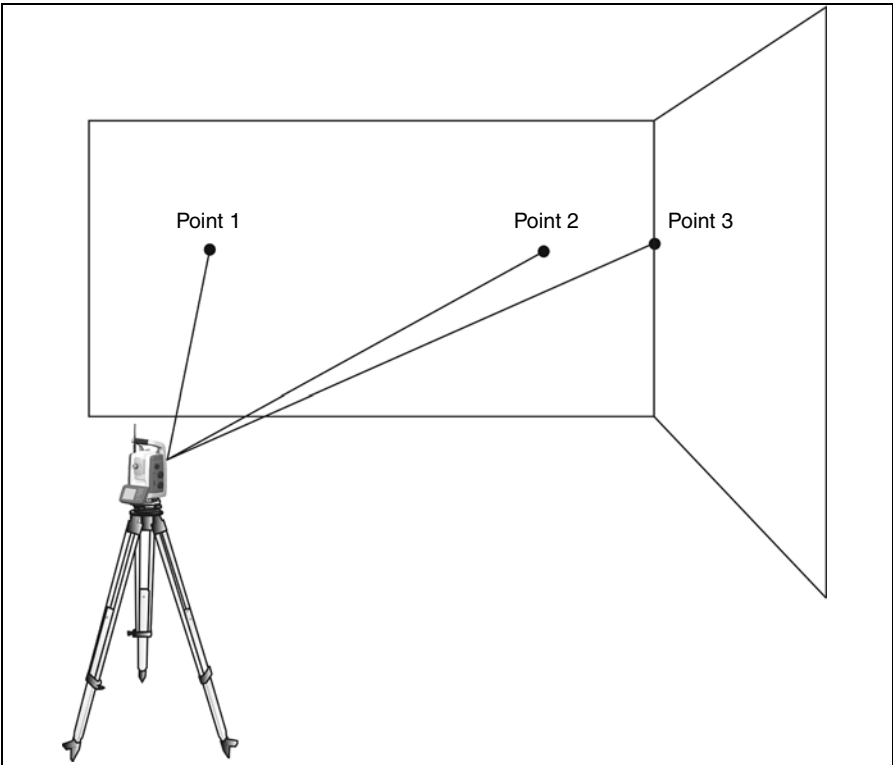

Figure 6.51 Offset measurement
2. Aim the instrument at the corner to store the correct horizontal and vertical angle. See figure 6.51